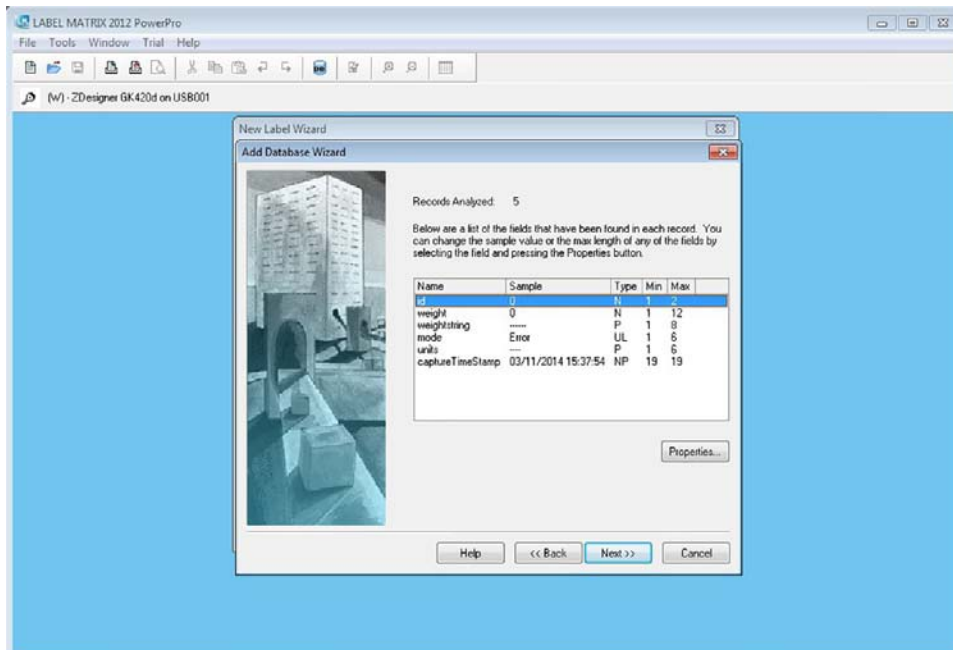

Figure 5-15. New Label Wizard Length
- Enter the min/max length for each field (see Figure 5-15 for recommended values).